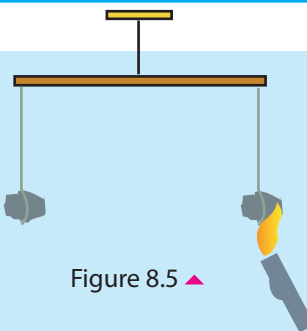

Figure 8.5 ▲
- Using the two iron wires tie them to the horizontal rod as shown in Figure 8.5.